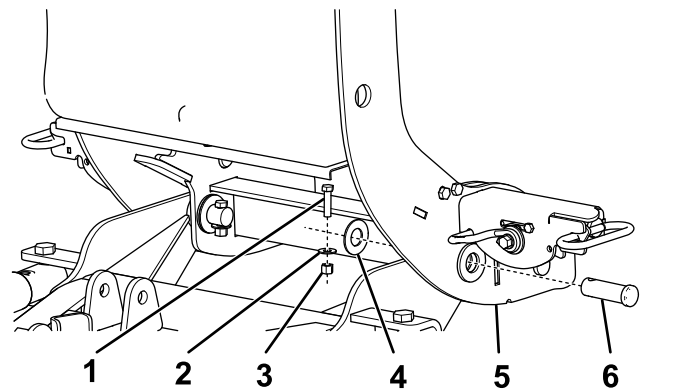

Figure 8
6. Align the pivot holes of the coupler tower with the pivot holes on the push-frame assembly, and secure them with a clevis pin (1 inch), flat washer (1 inch), bolt (3/8 x 1-1/2 inches), washer (3/8 inch), and locknut (Figure 8).